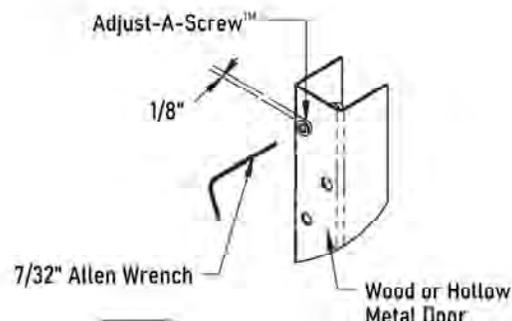

Fig. 4
4. Place a  $7/32"$  Allen wrench in opening of Adjust-A-Screw and turn Adjust-A-Screw into hole while keeping screw properly aligned (Fig. 4).